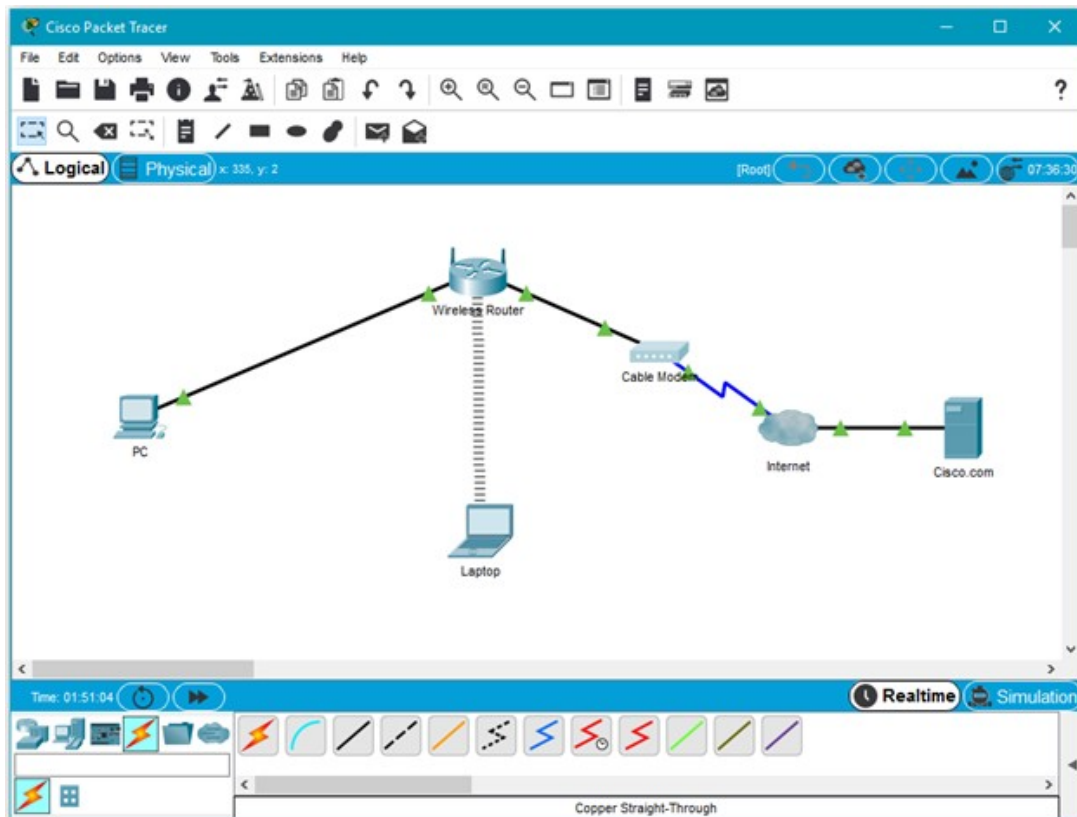

Figure 4.1: Topology of a Simple Network in Cisco Packet Tracer
- B. Add devices (*PC, Wireless Router, Cable Modem, Cloud, and Cisco.com Server*) to form the topology in Figure 4.1.